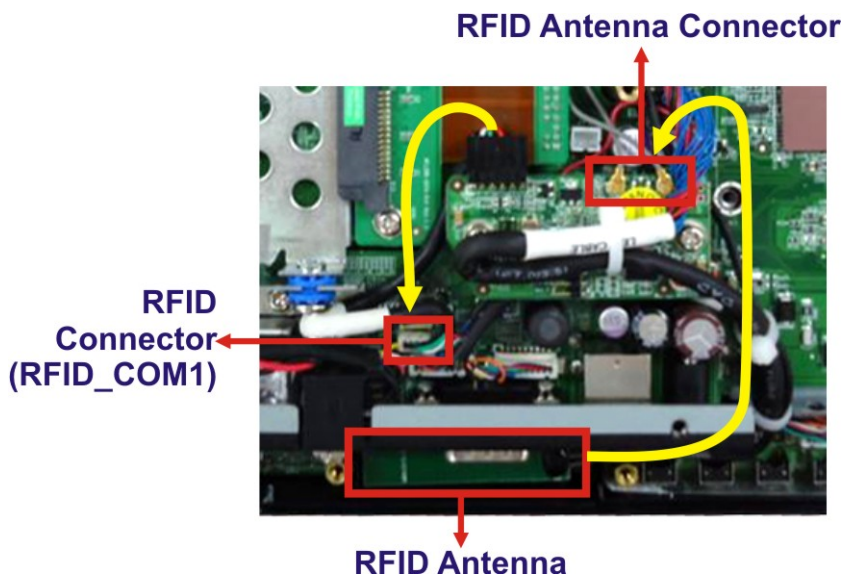

Figure 3-8: RFID Reader Connection
Step 4: Connect the RFID module to the RFID connector on the main board (**Figure 3-8**). The RFID connector pinouts are listed in Section 7.2.17.
Step 5: Place the RFID antenna on the location shown in **Figure 3-8**. Connect the RFID antenna to the RFID antenna connector on the RFID module.